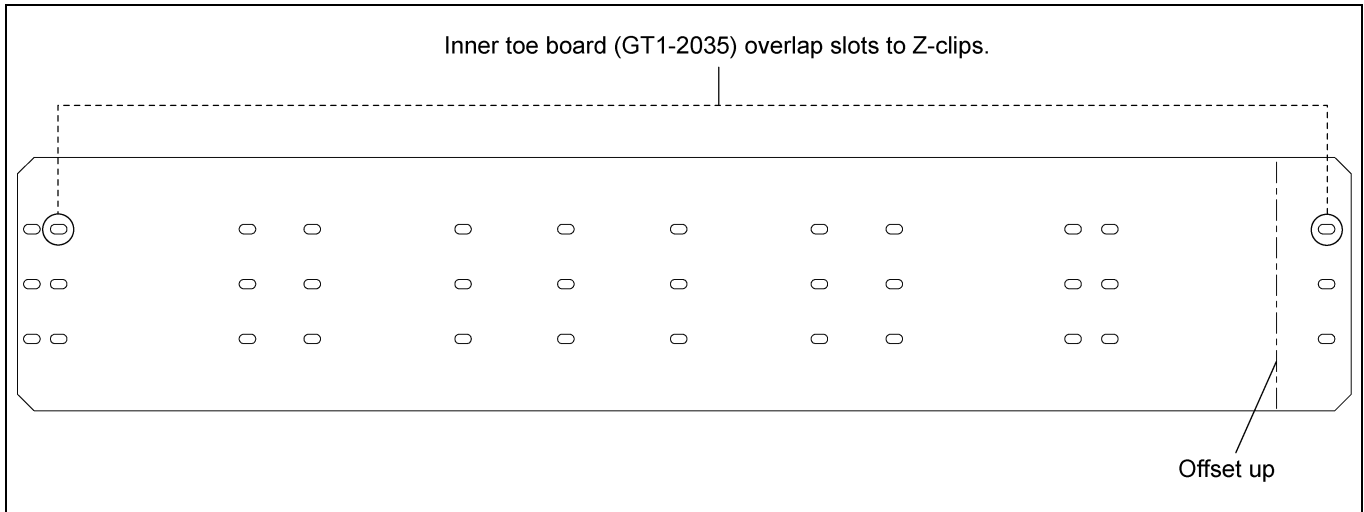

Figure 6L 24' Inner Toe Board (GT1-2035)
3. Inner toe board is arranged with overlap slots on each side. Install 24' offset and roof hatch inner toe boards (GT1-2035) to corresponding slots as shown in Figure 6L.